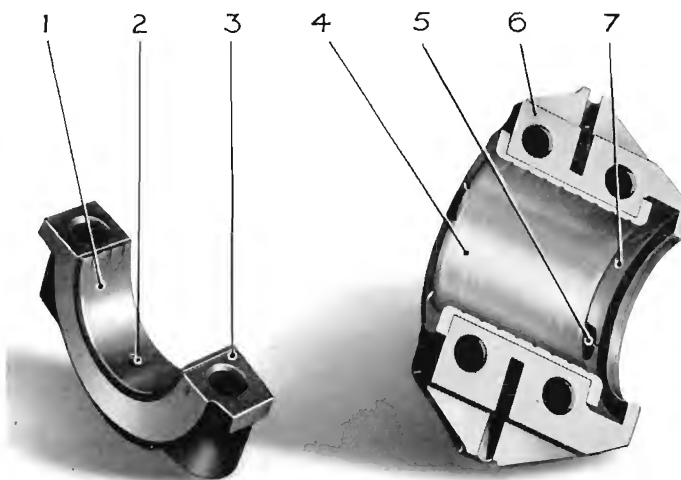

Fig. 22.
The bearings are located in the caps and crankcase by means of dowel pins (2), Fig. 22. The rear main is provided with a trough (7) and a drain hole (5) to allow excess oil to return to the sump and prevent leakage at this point. The bearings and caps are stamped in numerical order starting from the front of the engine and should be